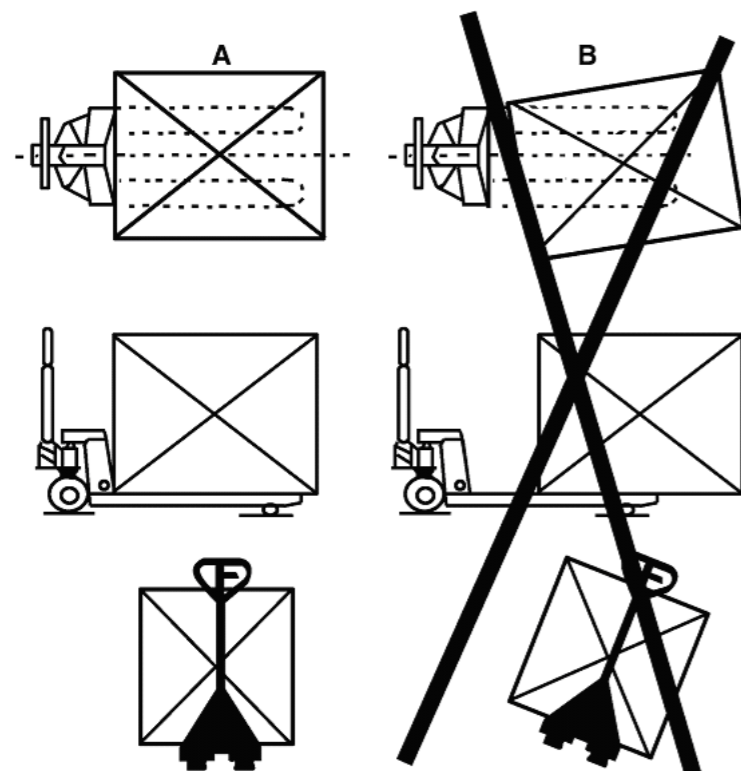

Fig. 5
- 6.9 Do not load goods like fig. 5/B .